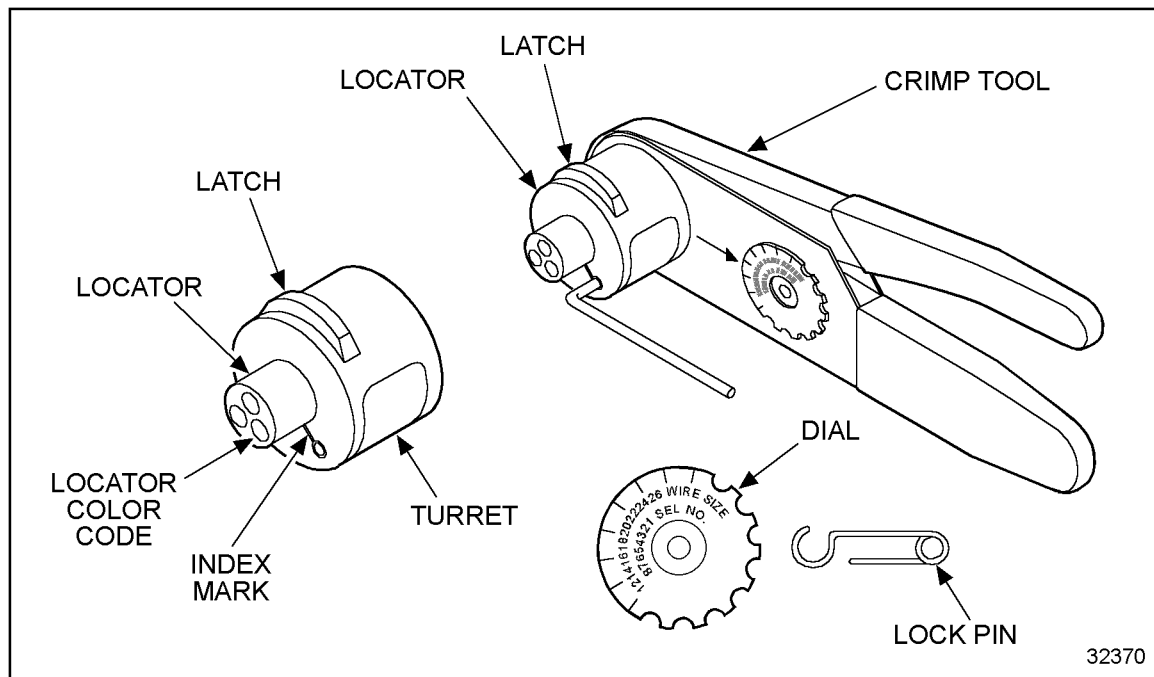

Figure 3-52 Hand Crimp Tool for 37-pin Connector Terminals
3. Push the latch on the turret to pop up the locator. Attach the turret (ITT P/N: 995-0002-052) to the crimp tool using the two captive hex bolts in the turret (see Figure 3-52).
5. Adjust the dial for proper wire gauge with the lock pin. Remove the lock pin and lift the center of the dial. Turn to the desired wire gauge and replace the lock pin on the dial (see Figure 3-52).